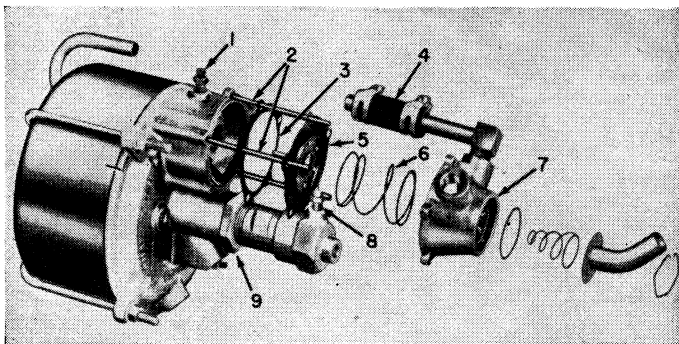

Fig. 65 Assembly of diaphragm, con-
Fig. 65. Place guide pins (2) in end plate as shown and carefully assemble control valve parts. Remove guide pins one at a time and replace with a screw and lock washer. When assembling diaphragm (5), return spring (6) and control valve body (7), extreme care should be taken not to distort the diaphragm in compressing the spring. Assemble vacuum hose (4) in place and tighten clamps. Tighten hydraulic cylinder to align bleed screw (8) in end cap with bleed screw (1) in end plate. Tighten lock nut (9) securely.